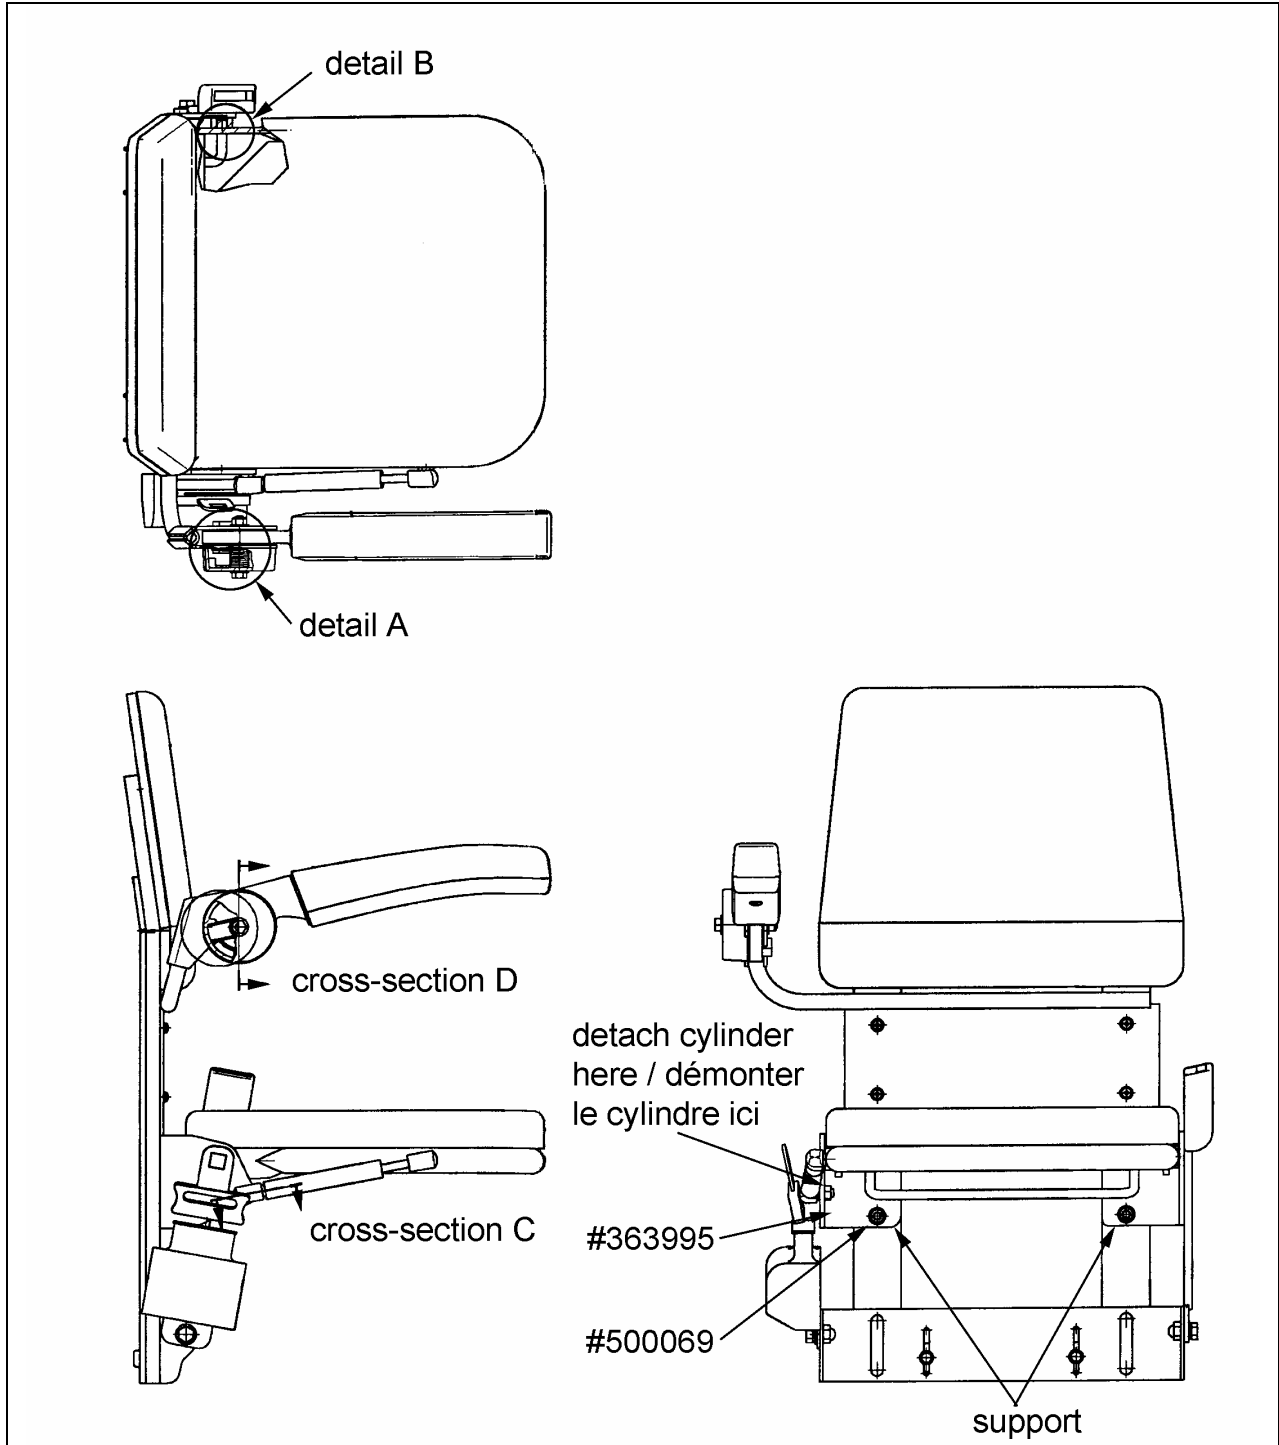

FIGURE 1: NEW CONFIGURATION
1. Unfasten the extremity of the cylinder indicated on figure 1. Remove the right seat support and install the new support #363995 using screws #500069 included in the kit. Reinstall the extremity of the cylinder using nut #502744 (see cross-section C).